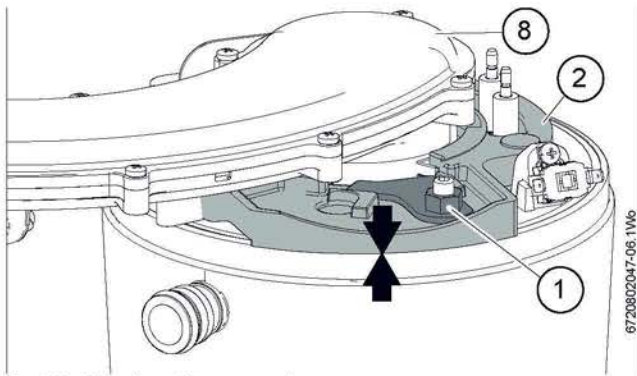

Fig. 87 Clamping plate secured
- ▶ Tighten the nut on the retaining plate assembly [1] until the underside face of the clamping plate mates with the top of the heat exchanger as indicated by the two arrows in figure 87